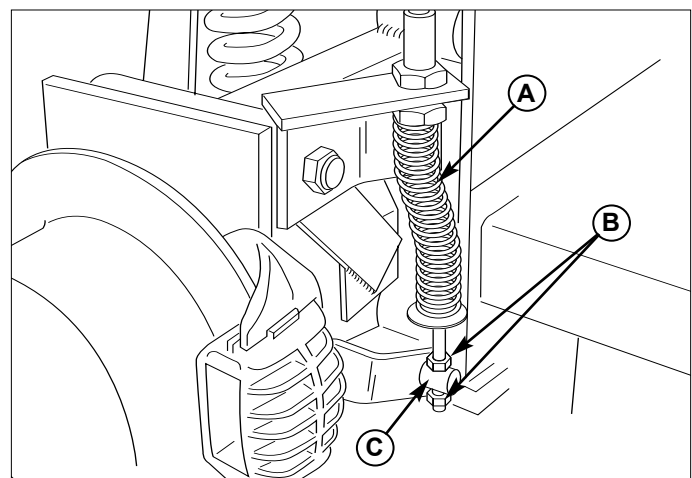

Figure 31. Parking Brake Adjustment
6. Locate the lower brake spring (A, Figure 31), adjustment nuts (B, Figure 31) and adjustment link (C, Figure 31).
7. Release the parking brake and turn the adjustment nuts to compress or release the upper spring. Lock the nuts against the adjustment link (C, Figure 31).